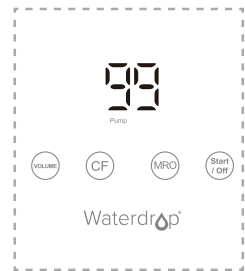

Figure 1.5
Step 6: After the water change is complete, the machine starts to filter water. It enters the 99-second countdown state. No filtered water is available during this time.[Figure 1.5]